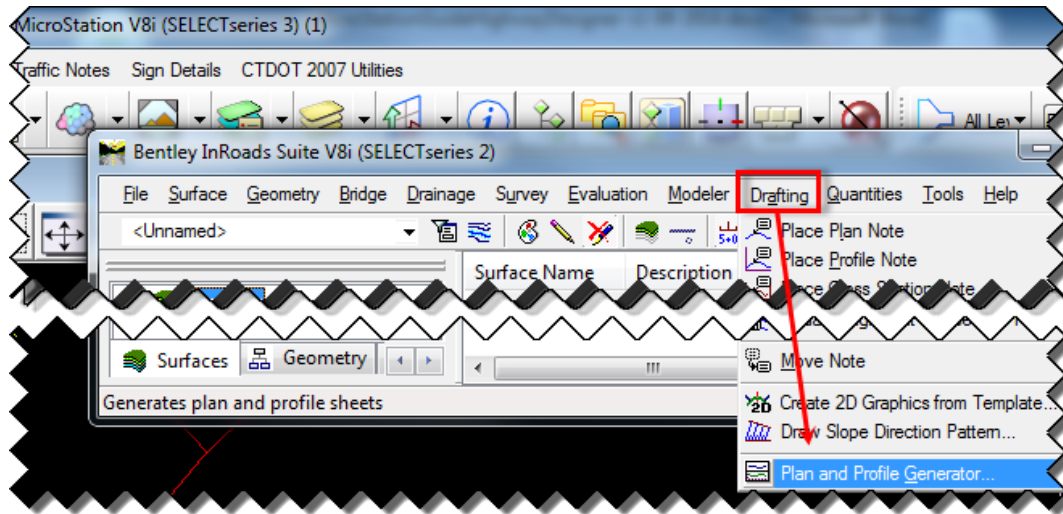

Figure 9 - InRoads Plan & Profile Generator
- When **InRoads** is used for the design work, it is recommended the plan sheets and profile sheets are created using the **InRoads Plan and Profile Generator** (Figure 9), see **InRoads** Plan Production in the CTDOT InRoads V8i Guide.